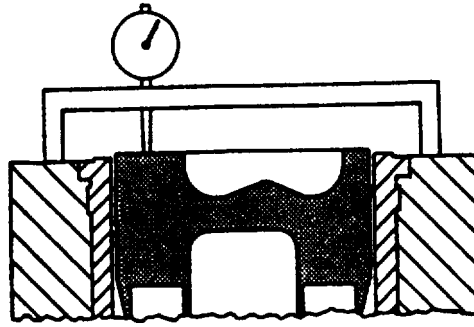

FIGURE 3-153. Measuring Piston Protrusion
- (1) Mount a dial indicator in gage (JDG451). Place gage on top of cylinder block in such a manner that dial indicator can be set at 'zero' with top of block.
- (2) Position gage across piston with outer ends on block so dial indicator plunger can contact top of piston, refer to FIGURE 3-153. Press down on top of gage and rotate crankshaft until piston is at TDC. Piston height must be checked at outer most diameter of piston.
- (3) Piston protrusion should be 0.003 to 0.012 inch (0.08 to 0.30 mm) to prevent piston-to-exhaust valve contact.